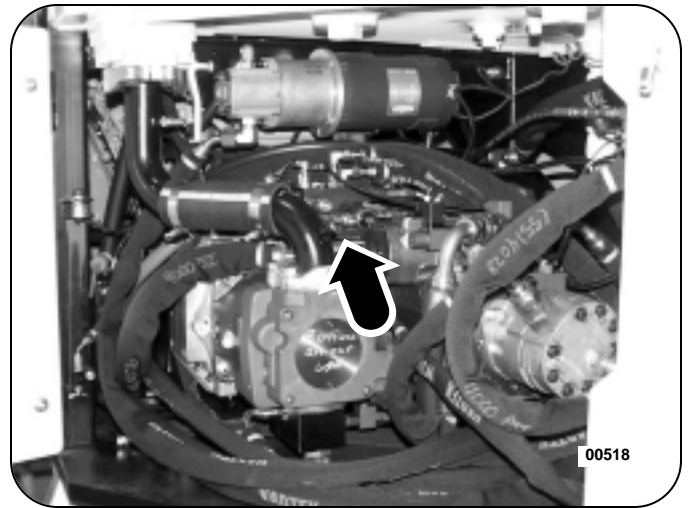
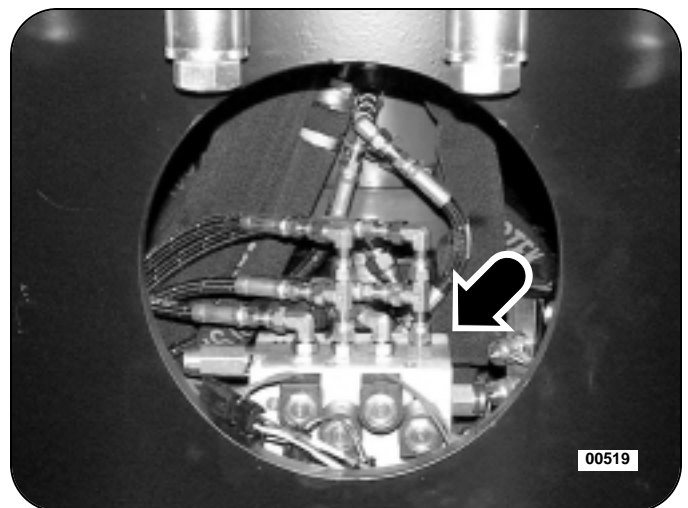

Figure 5: Upper Solenoid Manifold
Figure 6: Lower Solenoid Manifold
1. Open the swing-out pump guard to access the upper solenoid manifold, see Figure 5, or the right side upper turntable riser cover to access the lower solenoid manifold, see Figure 6.
- 3) Connect the voltmeter positive probe to the #1 terminal in the "A" connector (white) of the control box being tested. See Figure 6.
- 3) Connect the voltmeter positive probe to each of the following terminals in the "A" connector (white) of the control box being tested. See Figure 6. Then activate the lever or switch in the appropriate direction smoothly to full deflection.